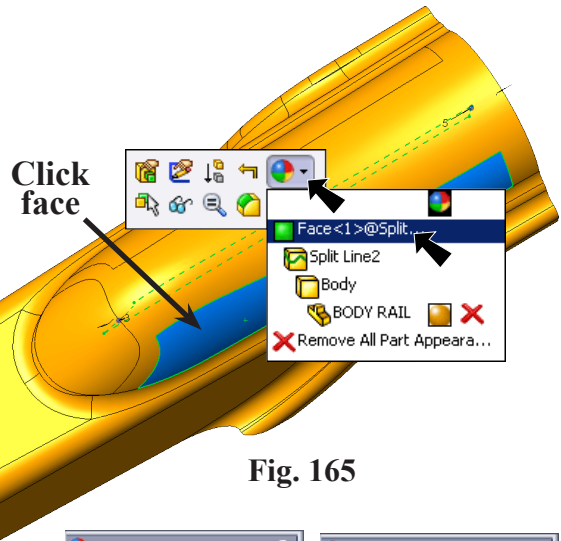

Fig. 165
Step 1. Rotate view slightly to view **all three Split Line faces**, hold down middle mouse button (wheel) and drag to rotate view, **Fig. 165**.
Step 2. Click a Split Line face, click **Appearance Call-out**  on the Content toolbar and click **Face 1 Split...** , **Fig. 165**.